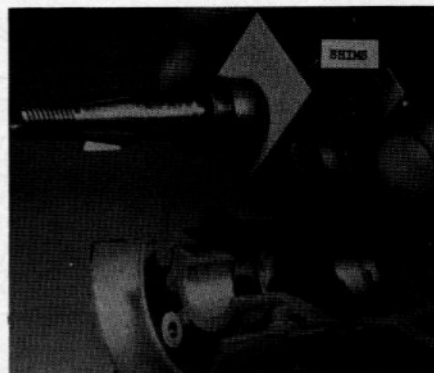

Fig. HL326—View showing placement of shims (Fig. HL325) between thrust washers (9—Fig. HL324) and bearings (10) for correct crankshaft assembly. Refer to text.
Fig. HL325—Shims used in crankshaft assembly may be made by cutting 0.015 inch thick plastic, metal or other suitable material in the outline shown above. Refer to Fig. HL326 and text.
seals (12) on crankshaft. Place 0.015 inch thick shims shown in Fig. HL325 between thrust washers and bearings as shown in Fig. HL326.